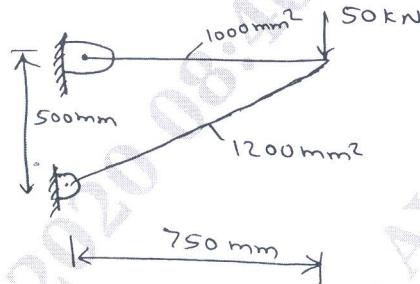

Fig.Q4
- 4 For 2 bar truss shown in Fig.Q4 determine the nodal displacements and the stress in each member. Take $E = 200$ GPa.